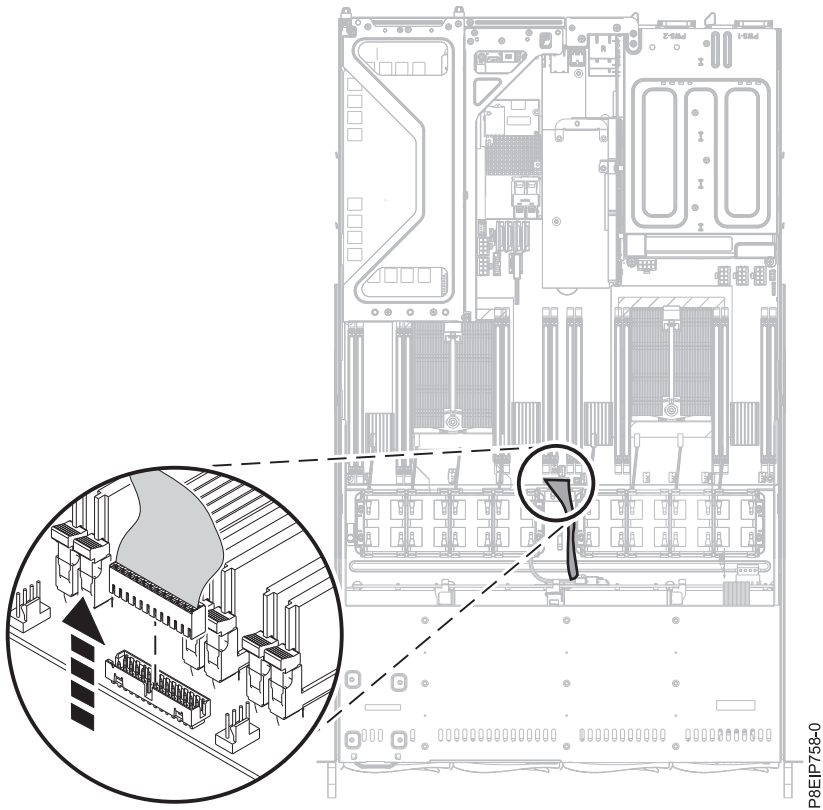

Figure 33. Removing the operator panel cable
11. Remove the operator panel cable from the system backplane as shown in Figure 33.